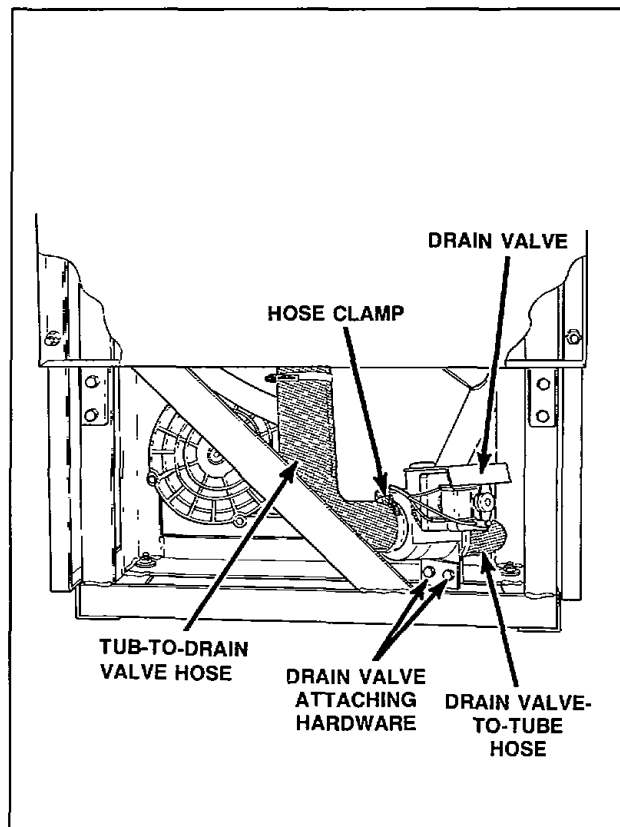

Figure 11
- c. Loosen hose clamp and remove the hose from drain valve, *Figure 11*.
- e. Remove screws, nuts, washers and lockwashers holding drain valve to washer frame, *Figure 11*.
- f. Loosen hose clamp on the drain valve-to-tube hose and remove drain valve from hose, *Figure 11*.